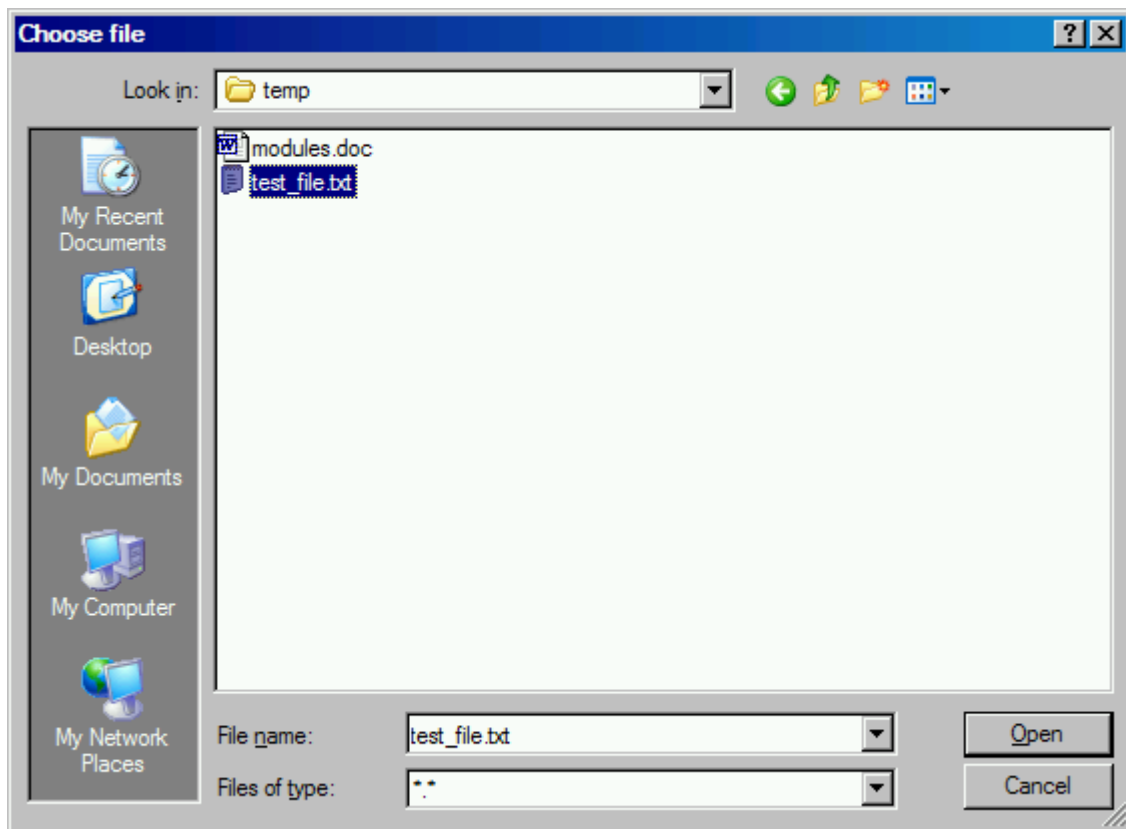

Figure 2. Choose file dialog window
- Select the file to be added as a reference in the folder system by using **Choose file** dialog window (see Figure 2).